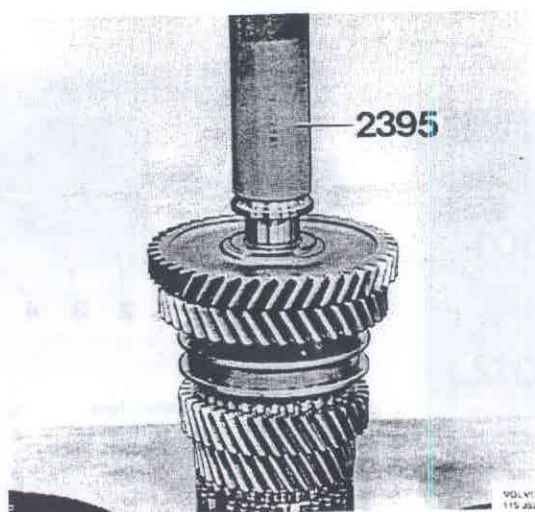

Fig. 43-89. Pressing on inner race
9. Fit the inner race for the rear ball bearing. Press it on with 2395, Fig. 43-89.